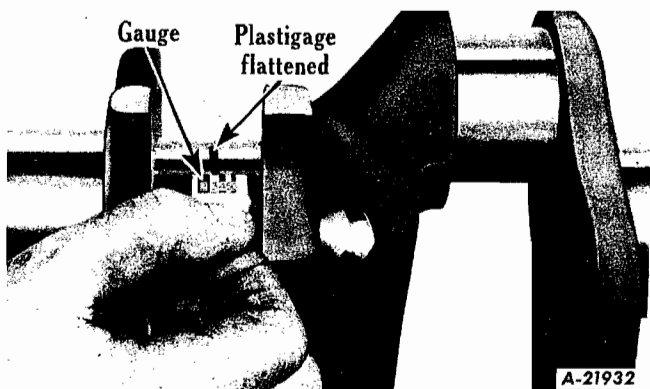

Fig. 38 - Checking bearing clearance.
- (A) Remove oil from bearing cap insert and exposed half of crankshaft journal.
- (B) Place a piece of "plastigage" the full width of the bearing insert.
- (C) Reinstall the bearing cap. Tighten the self-locking capscrews to approximately 105 foot-pounds.
- (D) Remove the bearing cap. The flattened plastic material will be found adhering to either the bearing shell or the crankshaft.
- (E) To determine the bearing clearance, compare the width of the flattened plastigage at its widest point with the graduations on the envelope (Fig. 38). The number within the graduation on the envelope indicates the clearance in thousandths of an inch. NOTE: Do not turn crankshaft during the above procedure.